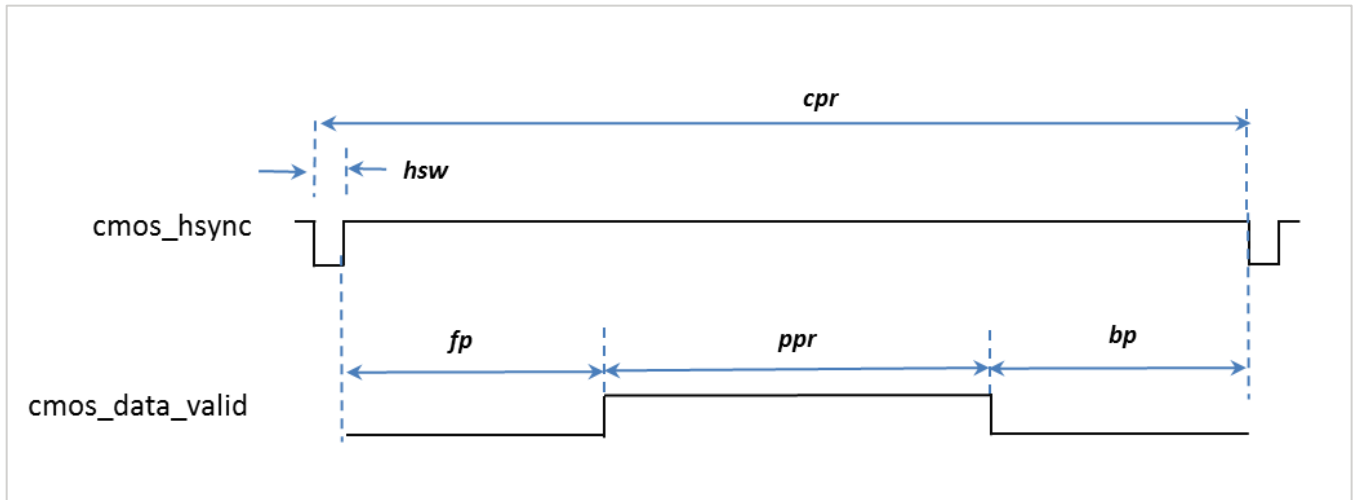

FIGURE 38: LINE TIMING OF THE CMOS OUTPUT CHANNEL
3. Each row period consists of four distinct sections, as depicted in Figure 38: